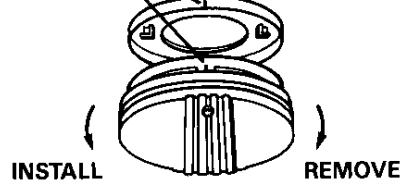

Fig. 4
8. Alignment marks are provided on the edge of the mounting plate and the alarm. After installing the mounting plate, place the alarm on the mounting plate with the alignment marks line up. Twist the alarm in the direction indicated by the "ON" arrow on the alarm cover (see Figure 4) until lock in place.